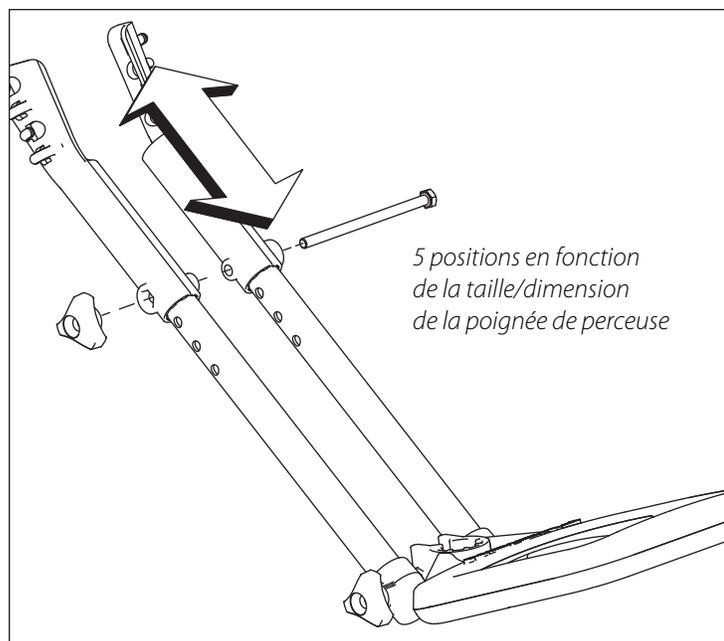

FIGURE 7
**VOIR FIGURE 7**
### VOIR FIGURE 7